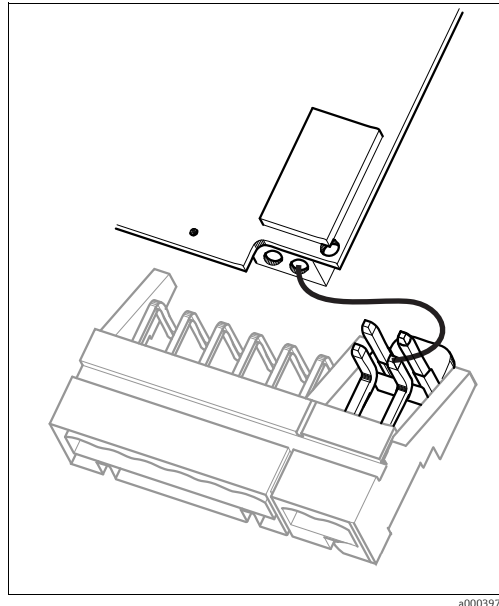

Fig. 23: pH input module in the housing cover with cable (red) for connecting glass electrodes
5. On the right-hand side of the housing cover, disconnect the red cable to the pH input at both ends (see Fig. 23).